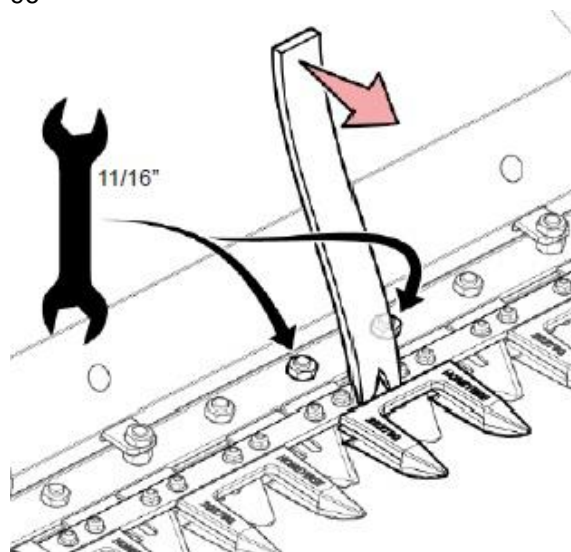

Figure 96
7. When installing the guards make certain that the guards and wear plates are adjusted properly. Use a pry bar to push the cutter bar to the rear. Tighten all the guard bolts. To 37 ft. Lbs. of torque. Figure 96